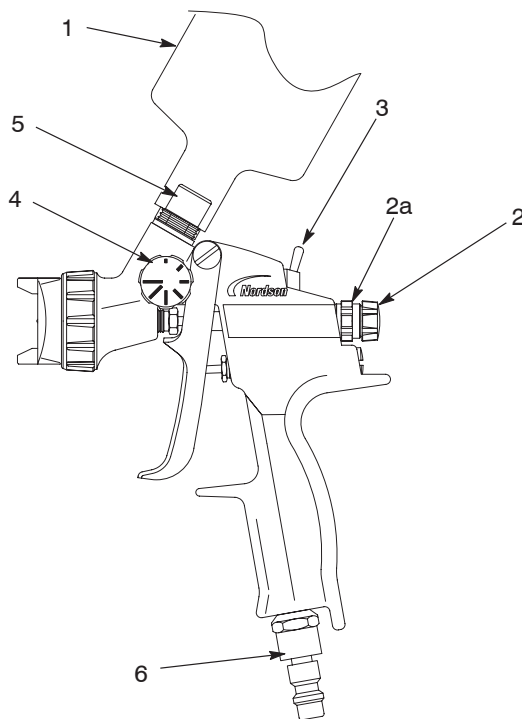
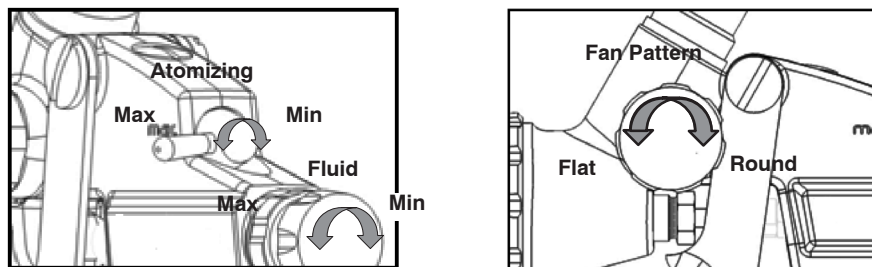

Figure 1 Trilogy General Purpose Air Spray and LVLP Gun Components
Figure 2 Spray Controls
See Figure 1.
See Figure 1 and Figure 2. Use the atomizing air regulator (3) to adjust atomizing air flow.
See Figure 1 and Figure 2. The material flow regulator (2) adjusts the material flow rate. Loosen the lock nut (2a) before adjusting the flow.
See Figure 1 and Figure 2. The fan pattern regulator (4) adjusts the shape of the spray pattern from flat to round.